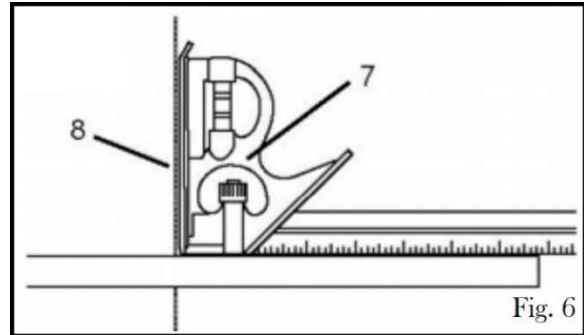

Figure 6
4. Using a combination square (7) to set the table so that it is exactly 90° in relation to the scroll saw blade (8). If there is a gap between the combination square and the blade adjust the table until the gap is no longer. (See figure 6)